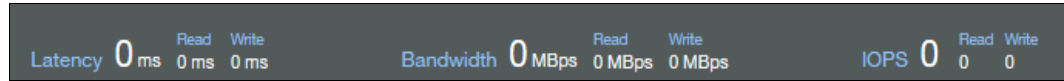

Figure 3-5 Performance indicator
- ▶ The bottom of the window shows the performance indicator. It gives you information about how your machine is performing right now. This information covers only the external tasks for attached hosts. Figure 3-5 shows the performance indicator.